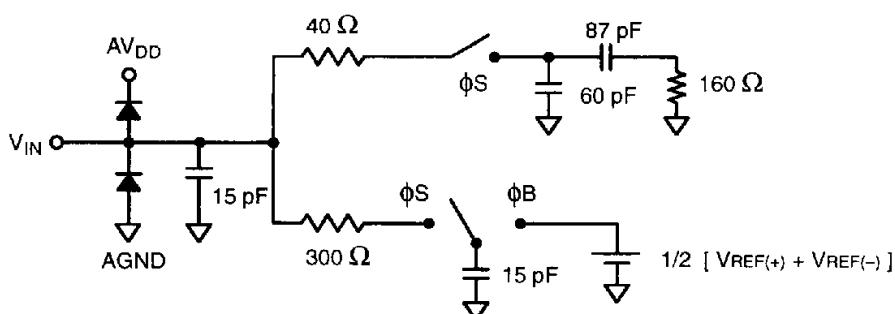

Figure 5. Analog Input Equivalent Circuit
- ⁶ See V_{IN} input equivalent circuit (Figure 5.). Switched capacitor analog input requires driver with low output resistance.